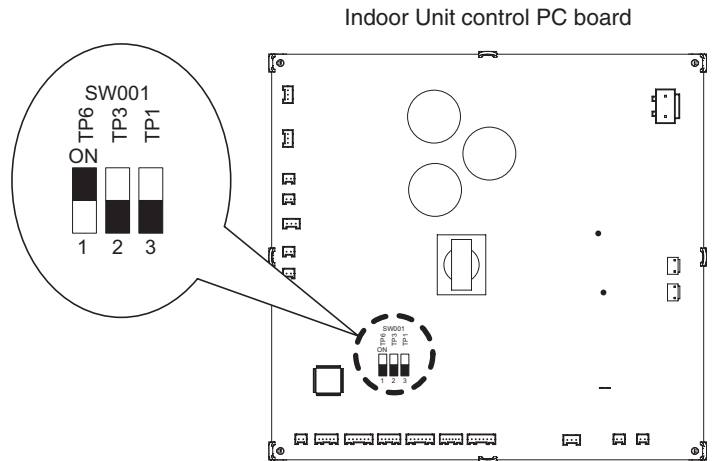

Fig. 2-9
**Refer to Fig. 2-9 for the external static pressure setting range.**
2. Open the lid of the electrical component box and confirm the location where the Select switch on the indoor unit control PCB is placed. (Fig. 2-9)